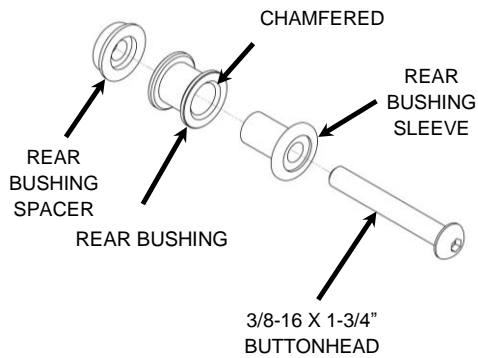

FIGURE 2
4. Assemble the supplied plastic bushing over the sleeve as shown in **FIGURE 2**. Make sure the chamfered inner edge goes towards the wide end of the sleeve.